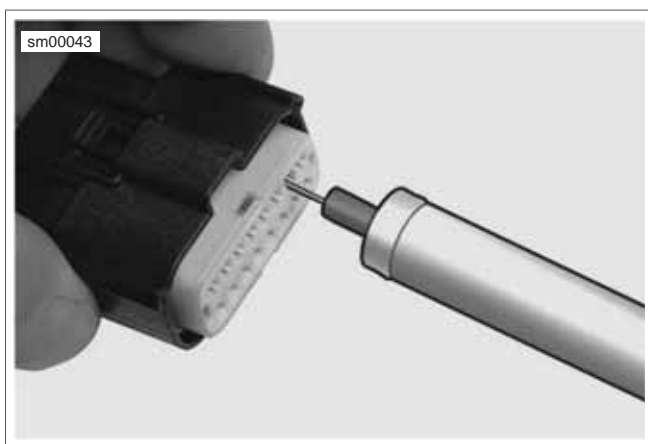

Figure A-36. Molex Connector: Terminal Remover (HD-48114)
2. See Figure A-36. Insert MOLEX ELECTRICAL CONNECTOR TERMINAL REMOVER (Part No. HD-48114) into the pin hole next to the terminal until the tool bottoms.